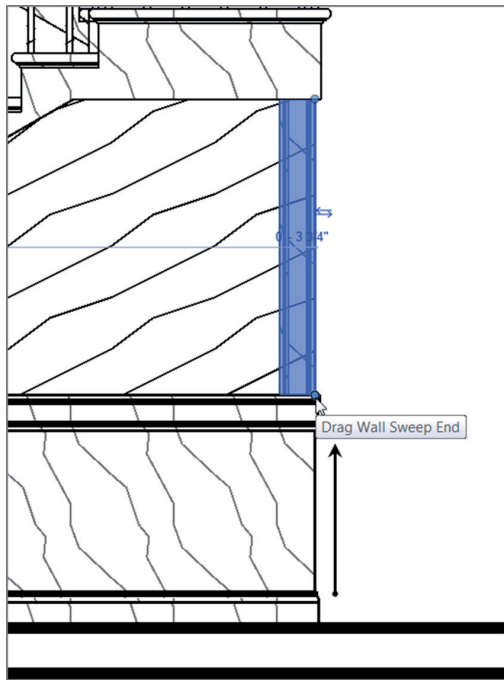

FIGURE BC1.19: Dragging the sweep up to the chair rail
13. Select the vertical trim. Notice the grips on the top and the bottom. Pick the bottom grip, and drag it up to meet the top chair rail, as shown in Figure BC1.19.